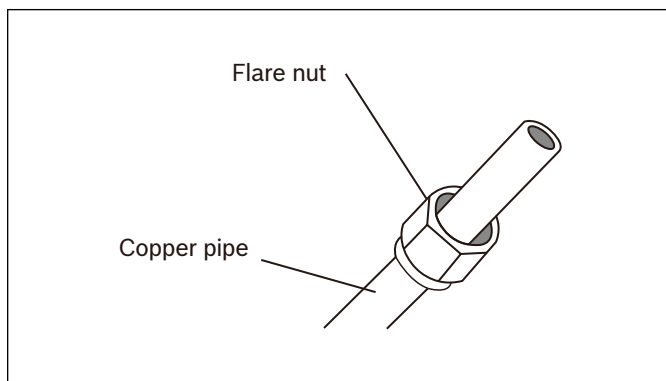

Figure 33
3. Place flare nuts on both ends of pipe. Make sure they are facing in the proper direction, because you can't put them on or change their direction after flaring. See Figure 33.